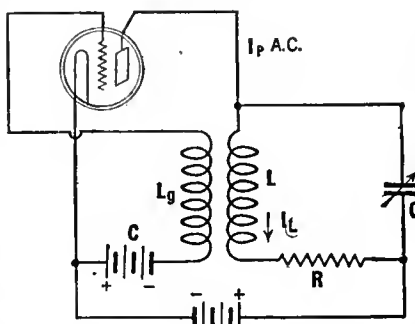

Fig. 3—A standard grid-tickler transmitting circuit.
**Problem:** In the Laboratory an inductance of 387 microhenries was tuned by a condenser to 1225 meters,  $f = 245$  kc. A tube with a  $\mu$  of 8 was connected to it in a tuned plate circuit (Fig. 3). Resistances were added to the tuned circuit, and the plate current and oscillating current were read. The values of total circuit resistance, plate current, and oscillating current are given below.